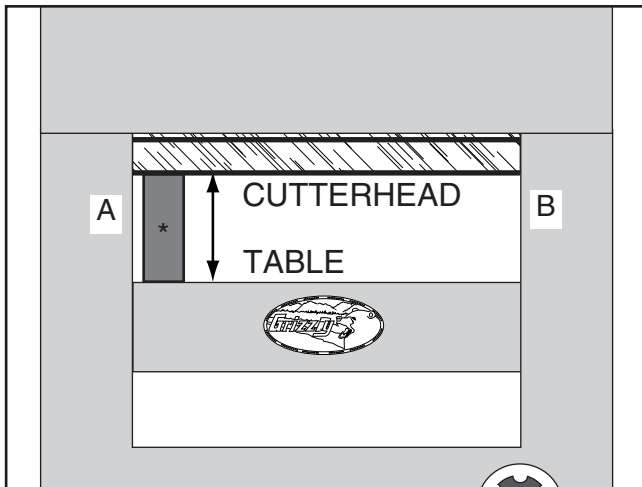

Figure 13. Measure table-to-cutterhead at both points "A" and "B."
3. Place the block of wood on the table, underneath the cutterhead. Position the block on the left side (point "A" in **Figure 13**) of the cutterhead.
5. Without moving the table position, slide the block over to the other side (point "B" in **Figure 13**).